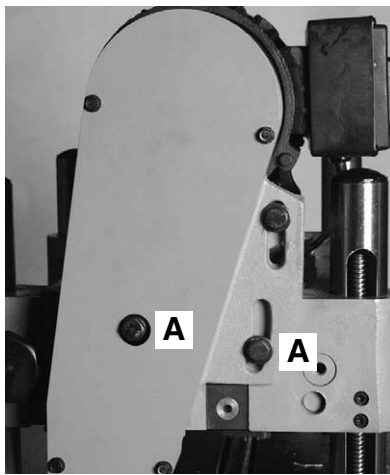

Fig. 5
2. Loosen 2 screws Fig. 5 (A) and pivot motor assembly forward.